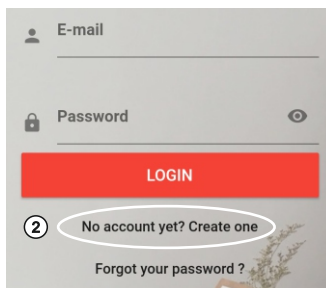

Figure 3
2) In the start up screen press **No account yet? Create one** (Figure 3). After finishing the process successfully you will have to confirm the e-mail address that you registered. With these data you can log in.